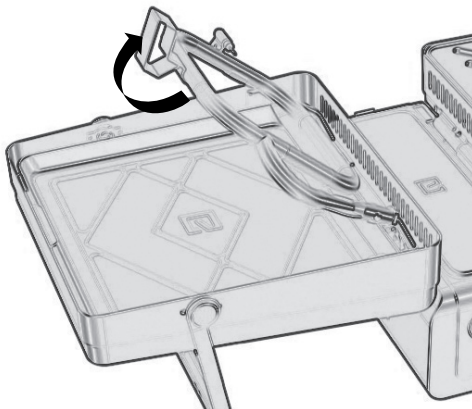

FIG. 09
1. Lift burners gently to the maximum position. (Fig. 09)